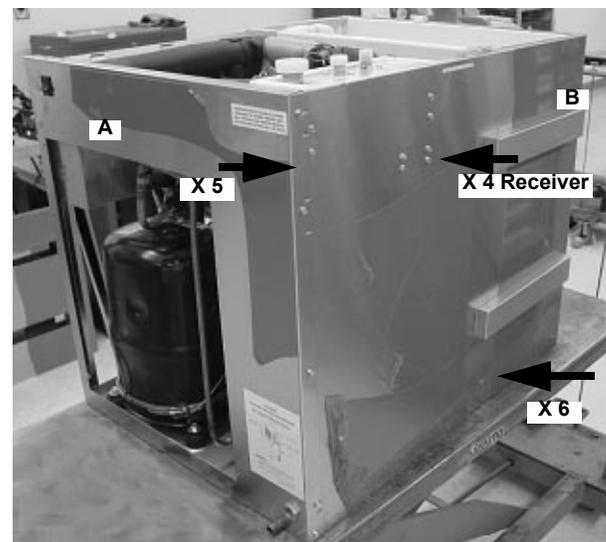

FIGURE 49
53. Replace the 4 hex head screws attaching the rear panel to the receiver bracket. Replace the 5 hex head screws attaching the rear panel to the right side panel. Replace the 6 hex head screws attaching the rear panel to the left side panel. Attach the water line (A) to the Heat Exchange Suction Line with the 7" wire tie (FIGURE 49).